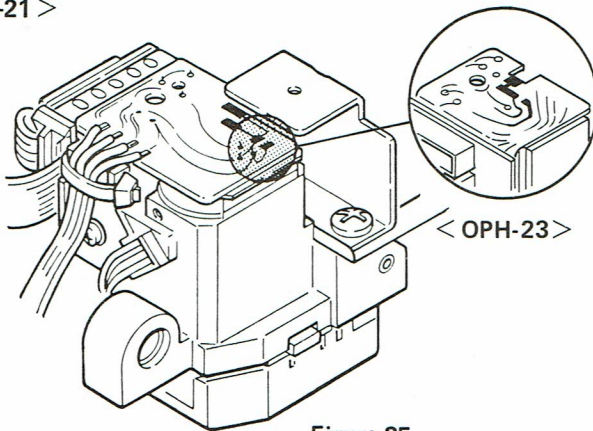

Figure 25
1. When removing laser pickup, solder and short-circuit patterns or leads to protect laser pickup from damage which may be caused during the removal. (Refer to Figures 25 and 27)
OPH-21 OPH-23	Patterns Figure 25.